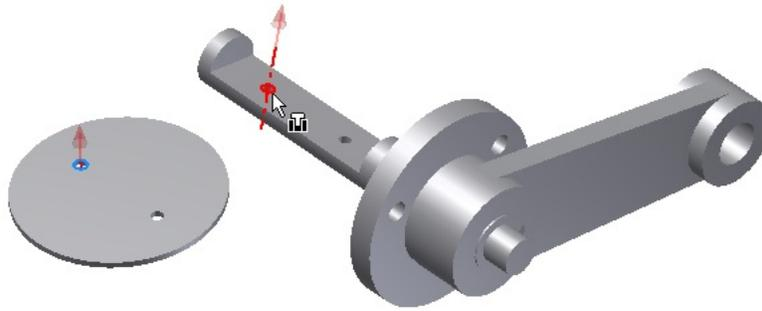

Figure 9-73 Selecting the faces to apply the constraint
7. Choose the **Insert** button and then select the circular edge of one of the holes on the top face of the Plate as the first edge to apply the constraint, refer to Figure 9-73.
8. Select the circular edge of the right hole on the flat face of the Shaft as the second edge to apply the constraint, see Figure 9-73. Then, choose the **Apply** button to apply the constraint.